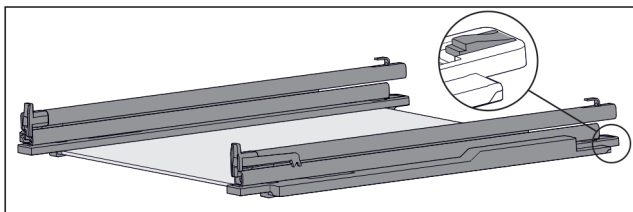

Fig. 128 Glass shelf with rails and retaining parts
- ▶ Press down retaining part at the rear (see *Fig. 128*) and at the same time push the rail back.